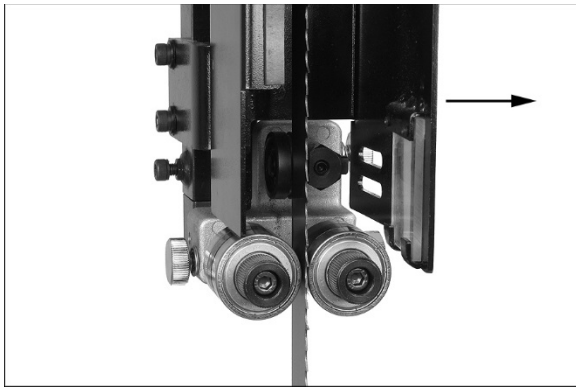

Figure 7-6
Refer to Figures 7-6, 7-7 and 7-8.
6. Pivot guide post cover out of the way (Figure 7-6).